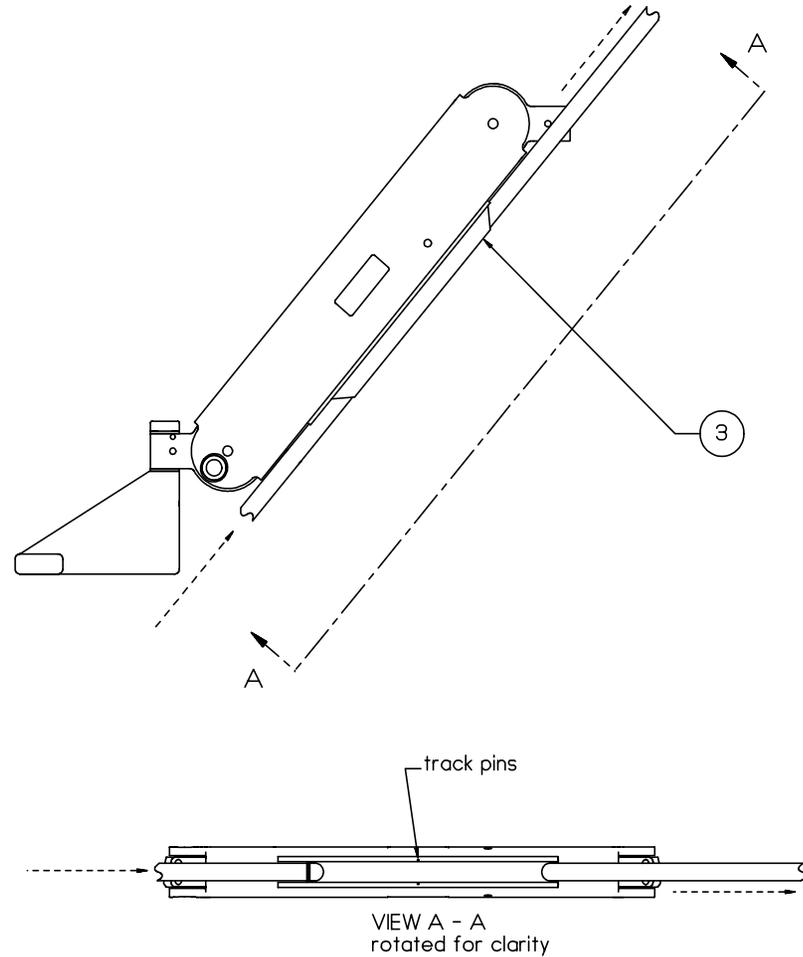

Figure 11
- 3. While holding the Cable Cover with one hand to guide it, pull the cable up through the track with the other hand and slide the Cable Cover up into the track until you hear the “click” of the cover’s notches locking into the track’s 2 pins. Make sure the Cable Cover stays at the same position on the cable itself. See Figure 11.
3. While holding the Cable Cover with one hand to guide it, pull the cable up through the track with the other hand and slide the Cable Cover up into the track until you hear the "click" of the cover's notches locking into the track's 2 pins, as shown in Figure 11 previously. Make sure the Cable Cover stays at the same position on the cable itself.